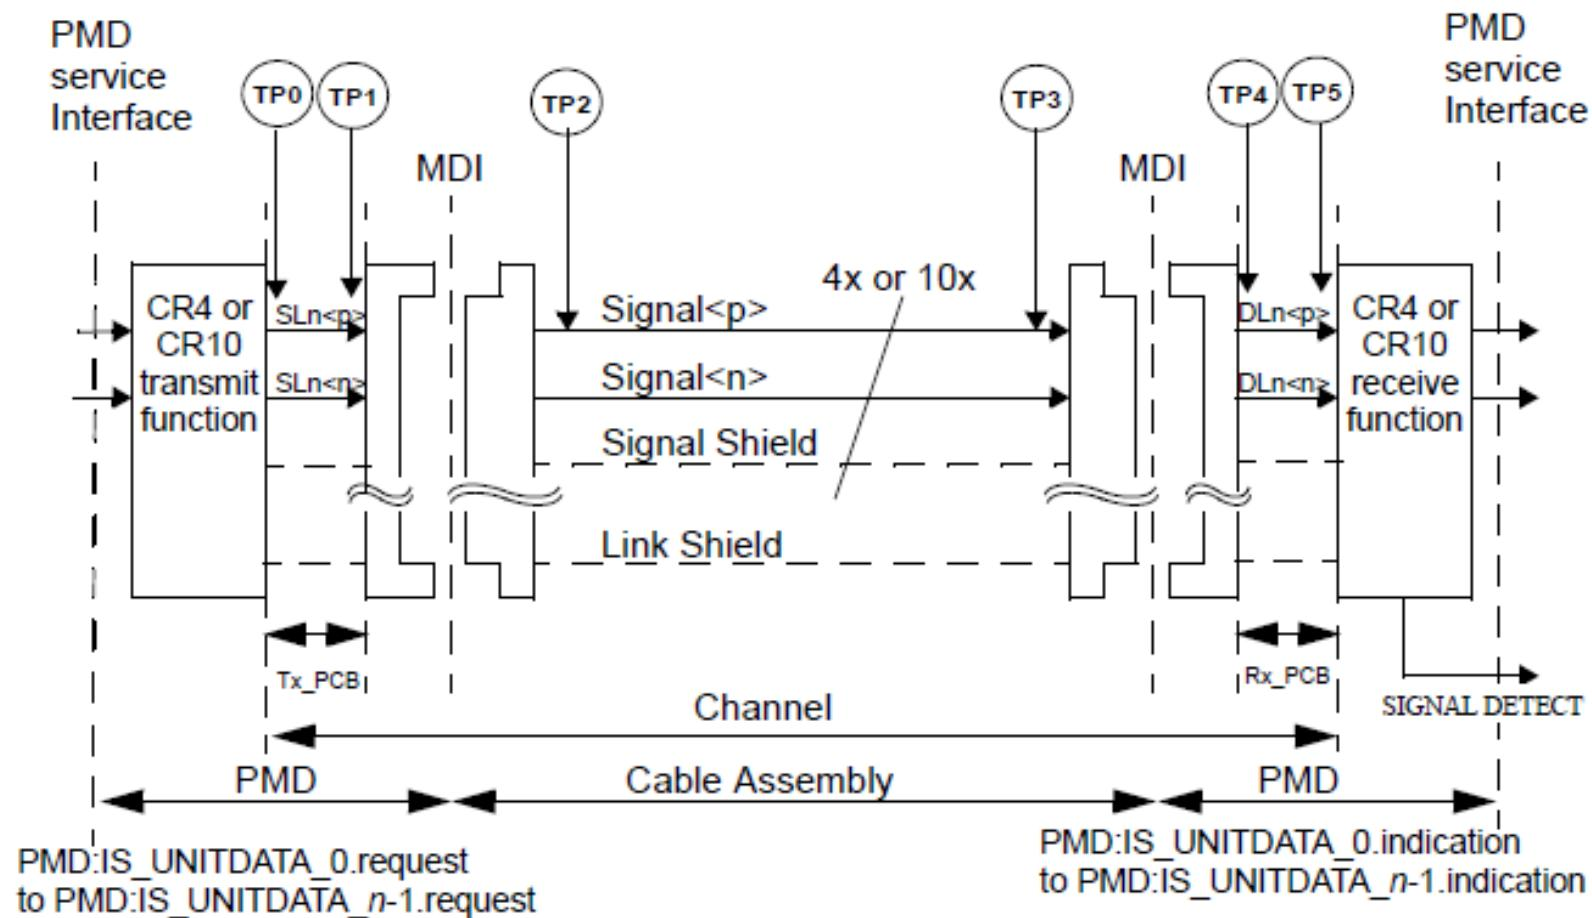

Figure 85-2—40GBASE-CR4 or 100GBASE-CR10 link (half link is illustrated)
- Adopt Figure 85-2 and Table 85-4 as baseline for 802.3bj with applicable changes for naming transmit and receive functions and figure and clause numbering.